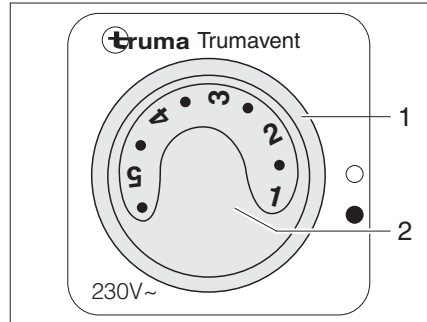

Fig. 108 Operating switch for circulation fan (240 V)
- Turn the rotary switch (Fig. 108,1) to "●".
- Turn the knob (Fig. 108,2) to the required position of the circulation fan.
- Turn the rotary switch (Fig. 108,1) to "O".